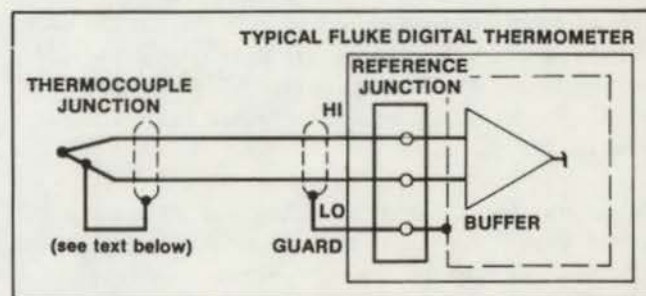

Figure 112.
**Does guarding apply to a digital thermometer? (See Figure 112)**